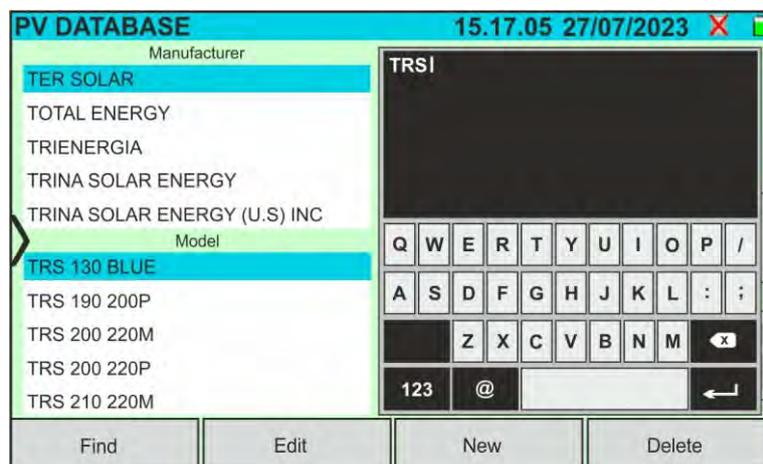

Fig. 30: Search by module
3. Use the alphanumeric virtual keyboard to enter the desired model name or a keyword and tap on (ENTER) on the virtual keyboard to confirm. The searched model (if present) will be highlighted on the display (see Fig. 30)